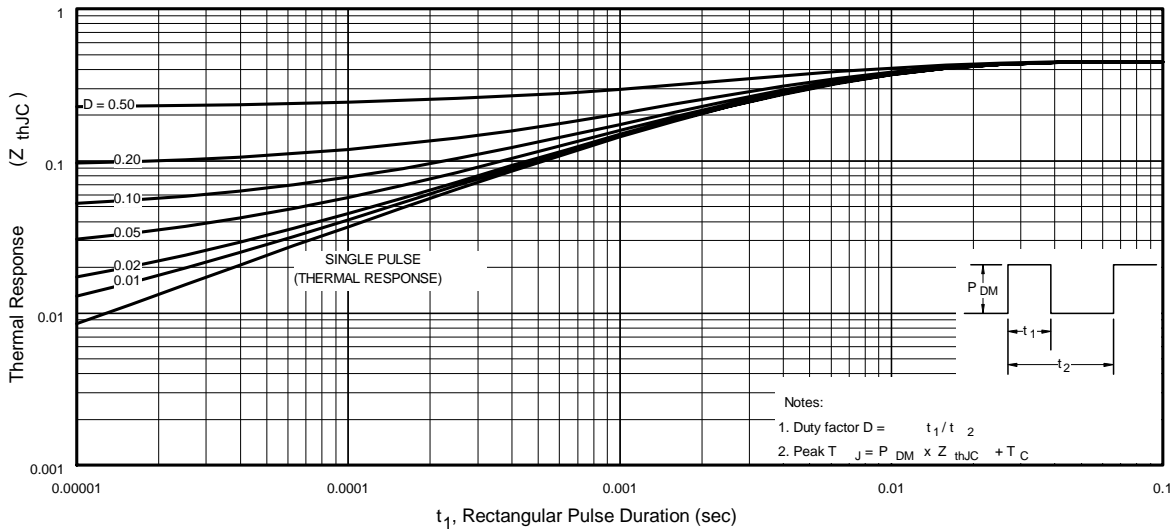

Fig 11. Maximum Effective Transient Thermal Impedance, Junction-to-Case
- ① Repetitive rating; pulse width limited by max. junction temperature. (See fig. 11).
- ② Starting T_J = 25°C, L = 0.08mH
$Z_{thJC}(D, t_{av})$ = Transient thermal resistance, see figure 11)